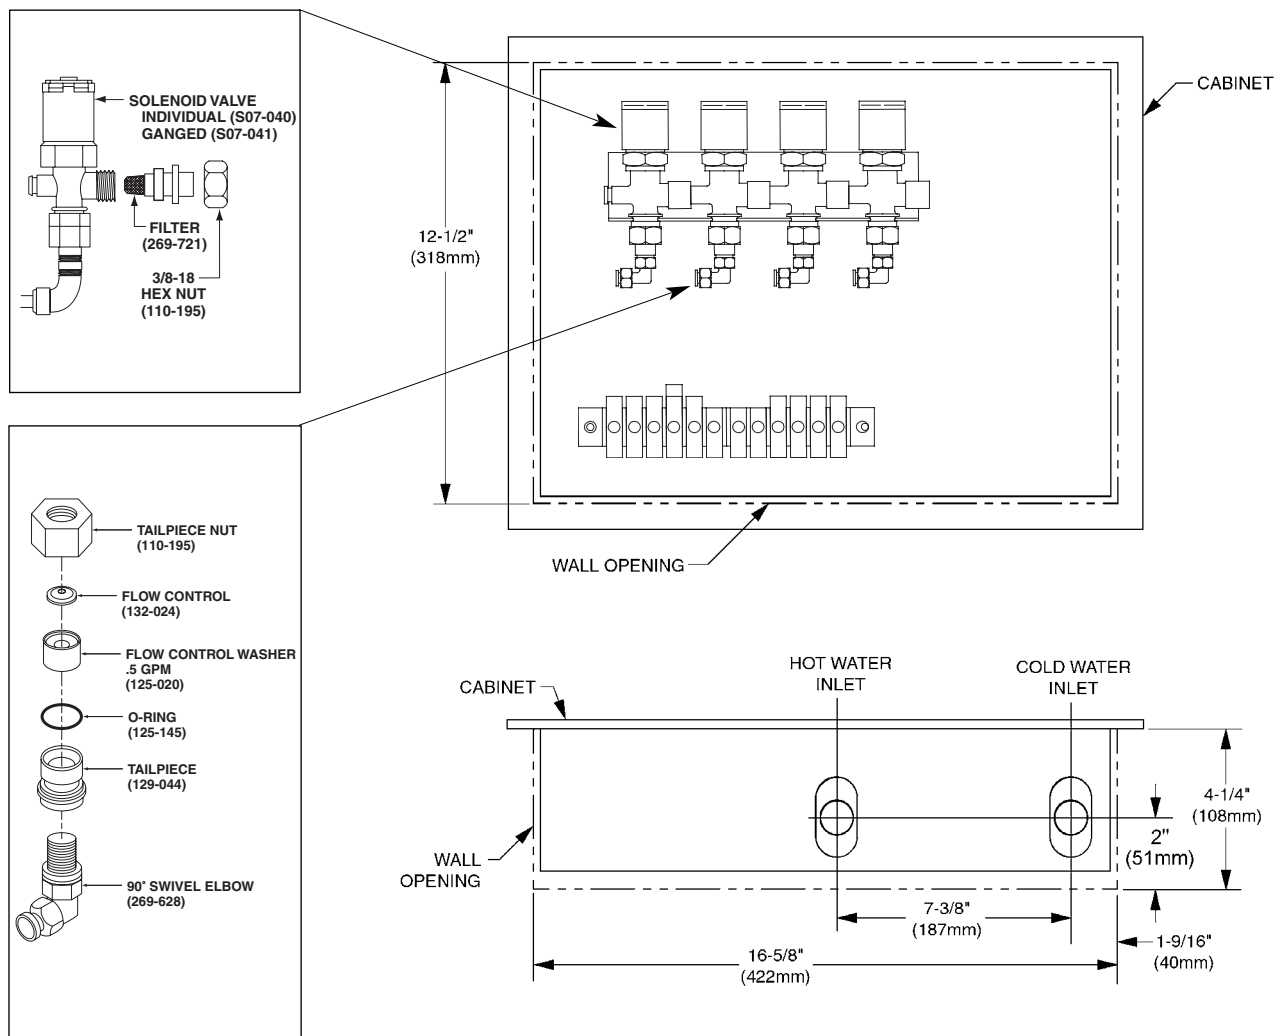
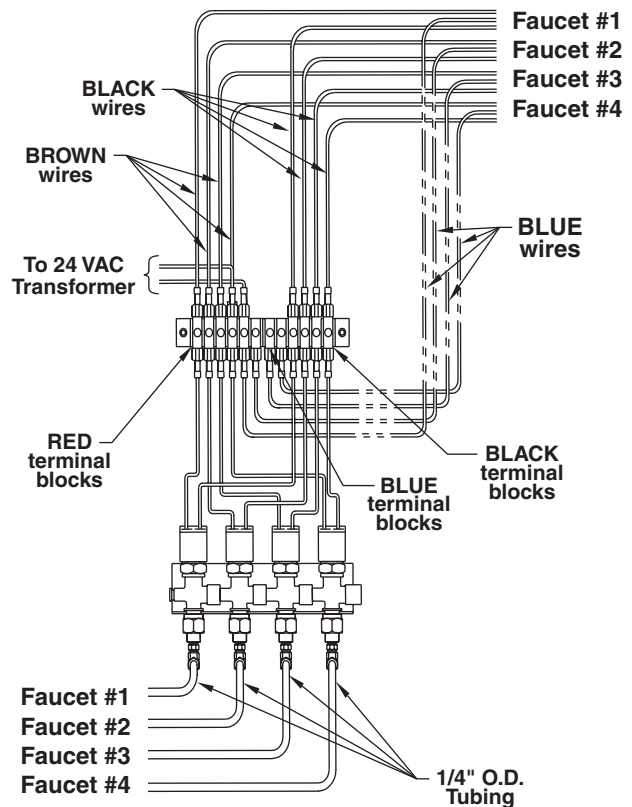

Figure 1
Figure 2
2. Rough-in hot and cold 1/2" NPT water supply to the cabinet's thermostatic mixing valve location (see Figure 1 for dimensions).
3. Rough-in a 16-5/8" W x 12-1/2" H x 4-1/4" D hole in the wall for the cabinet (see Figure 1).
5. Make 1/2" NPT supply connections to the thermostatic mixing valve (piping and fittings supplied by installer) (see Figure 1).
NOTE: Refer to Figure 2 for 900 Series Futura faucets when replacing tubing and wiring connections. Figure 1 on page 2 illustrates components that are pre-wired and provided with the cabinet. Additional wire and tubing supplied by installer..
IMPORTANT: When making electrical connections, ensure each faucet is wired to the terminal block connected to the matching solenoid valve as shown in Figure 2.